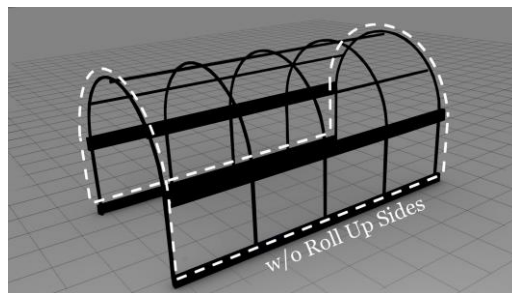
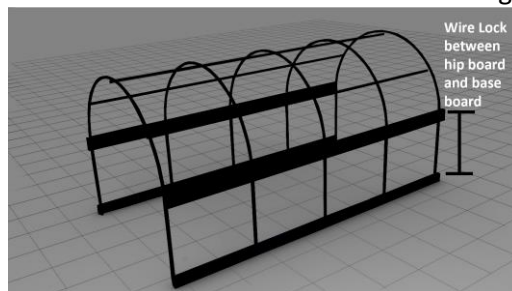
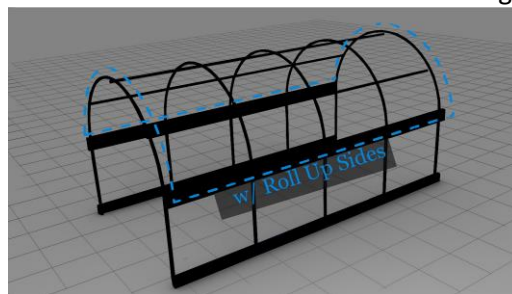

Fig 7.1
Fig 7.2
Fig 7.3
- If you do not have Roll Up Sides, start at the base board on one side. Attach Wire base on face of board (Fig 7.1) and install on bow running all the way over bow to other base board. Screw every 18” with self-tapping screws. If you have Roll Up Sides cut and fit a piece of wire base in between hip board and base board (Fig 7.2). Then attach wire base to face of hip board (Fig 7.3) and install over bow to other hip board.